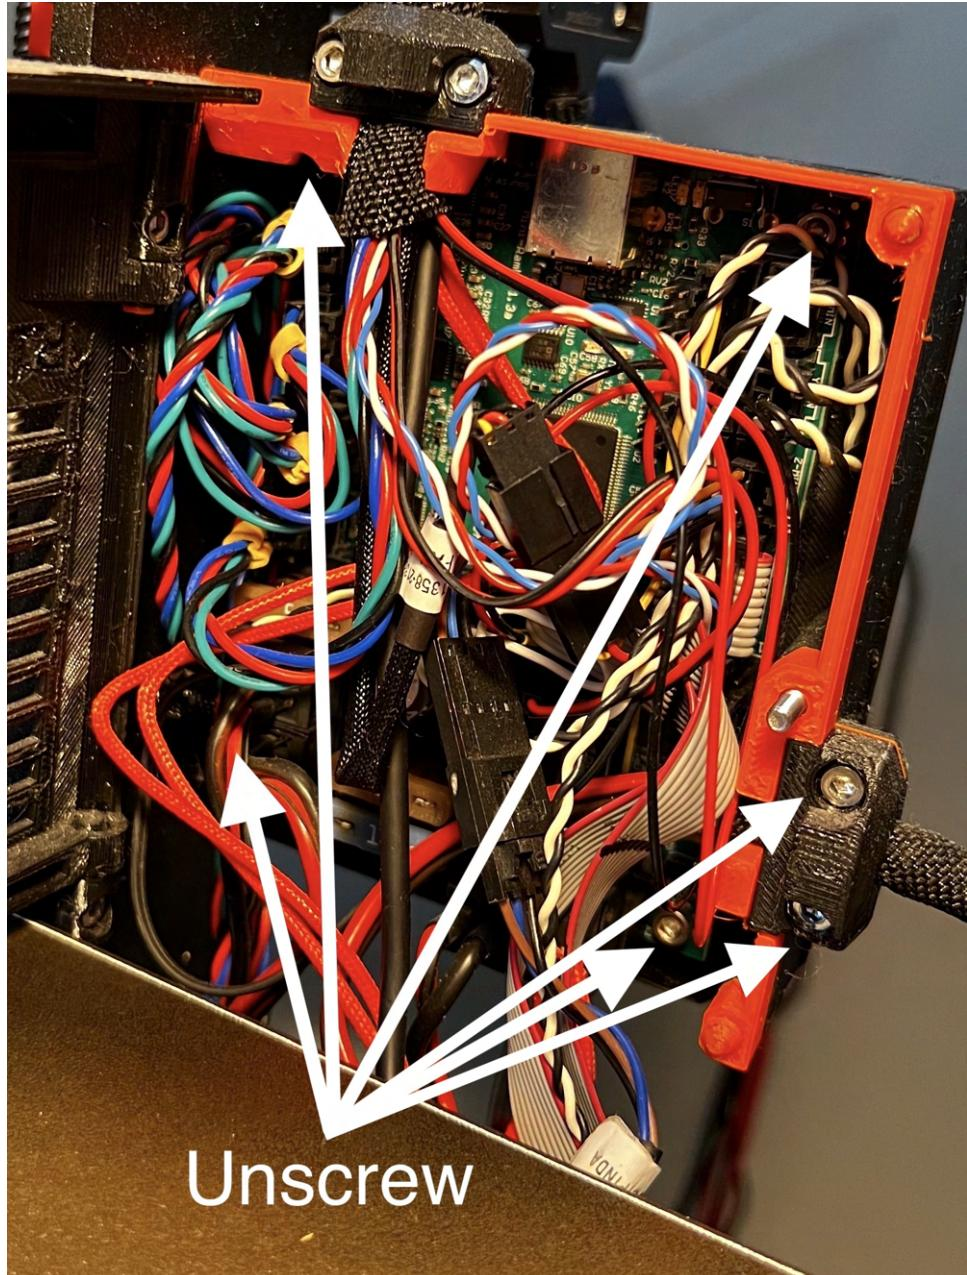
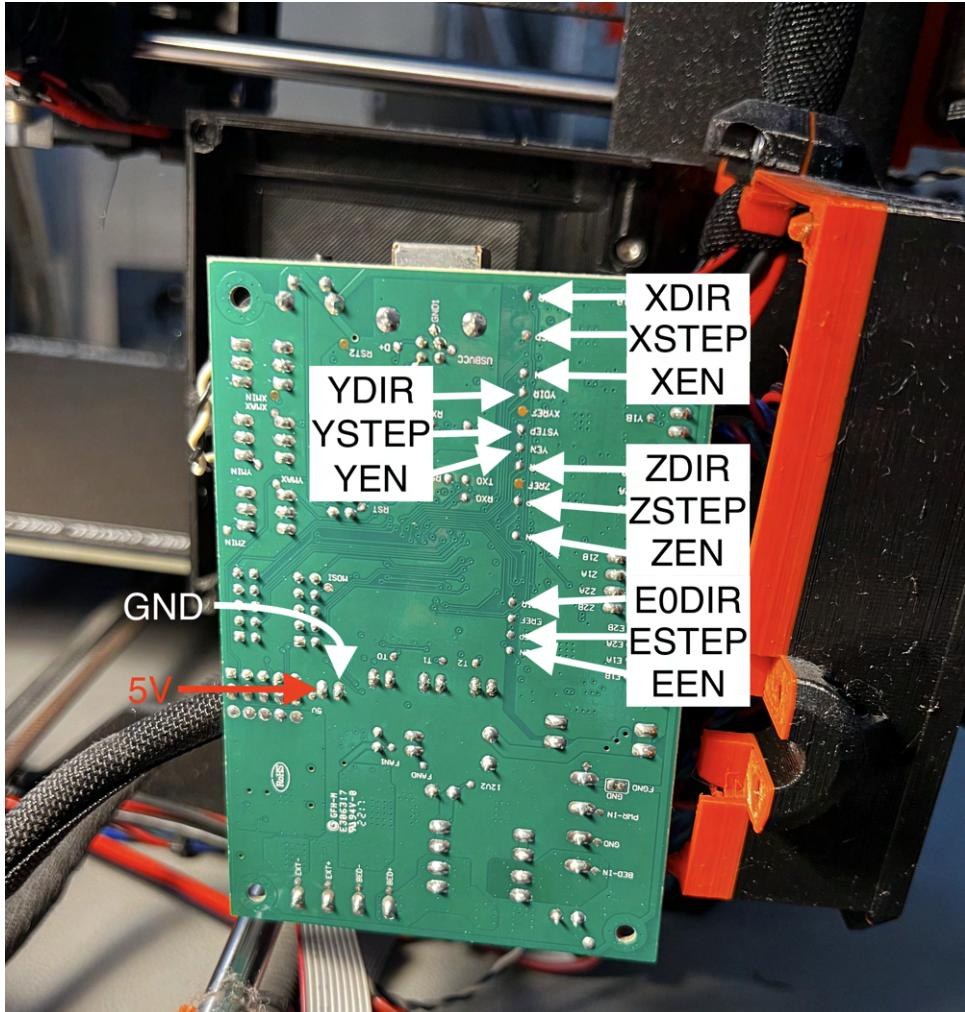
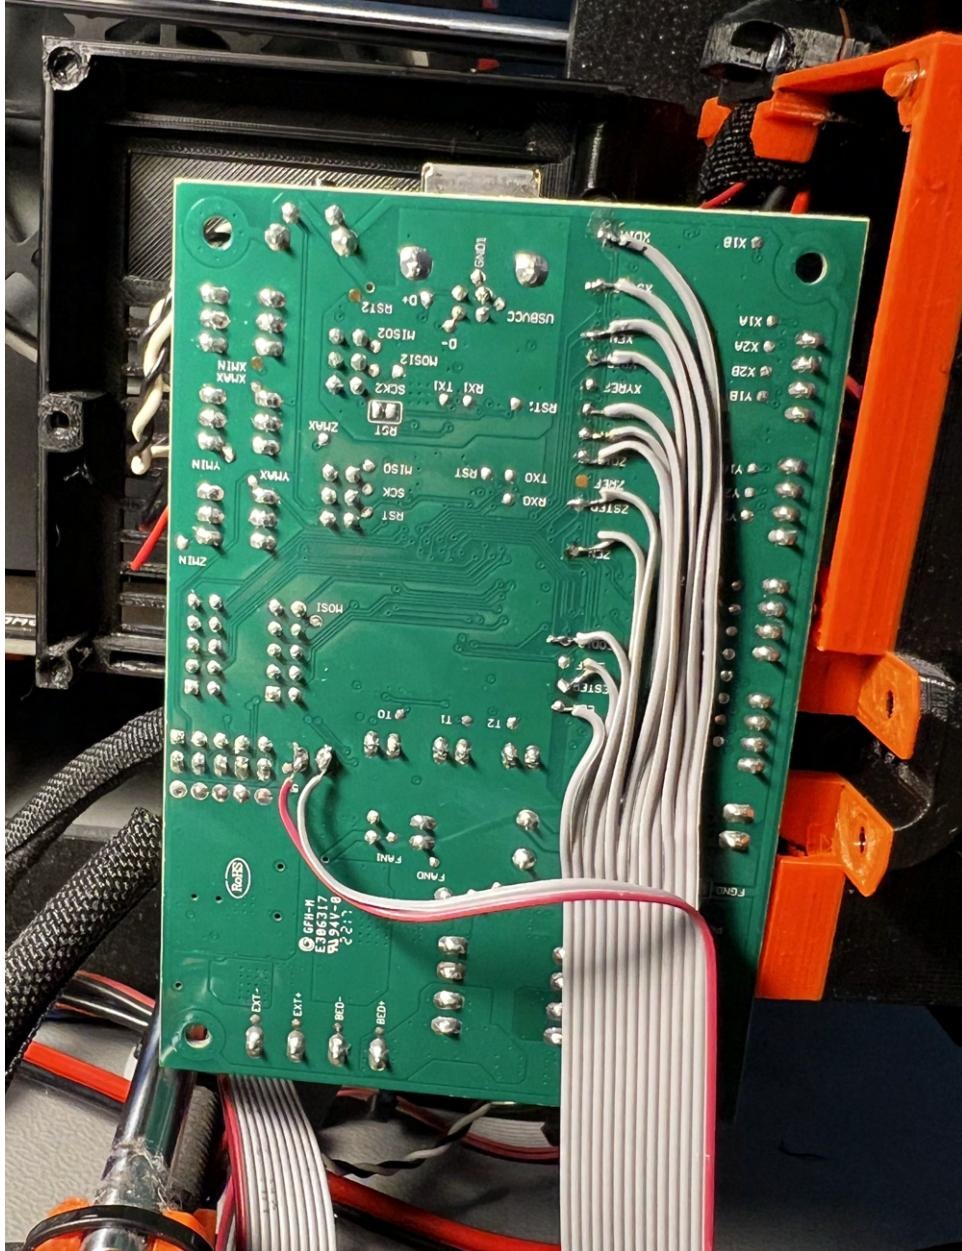

Figure 5: Front side Rambo control board.
Figure 6: Recommended position for Rambo control board to solder data pins.
Figure 7: Data pins soldered to Rambo.
Moving on to the main board, I suggest that you only unscrew the board from the Rambo base while leaving all the wires connected. While you are free to approach this step as you see fit, I have found that this method makes soldering the data pins easiest. Begin by unscrewing the screw on the Rambo cover and opening it. Unscrew the screws marked in Figure 5, and move the Rambo board to the position shown in Figure 6. This will provide easy access to the pads that need to be soldered to the data pins on the ribbon cable.
**IMPORTANT:** Before beginning with the soldering, it's important to note that the pads' names are marked on the Rambo board, as shown in Figure 6. It's crucial to watch out for the REF pins located close to the other pins and make sure you don't accidentally solder a data pin to one of those. Additionally, the data cable's orientation should be such that the red cable is located towards the right, ensuring the correct orientation of the connector to the upgrade board, as shown in Figure 7.
After you have finished soldering to data pins the result should look like Figure 7. You can use some silicone or similar to glue the cables in place.